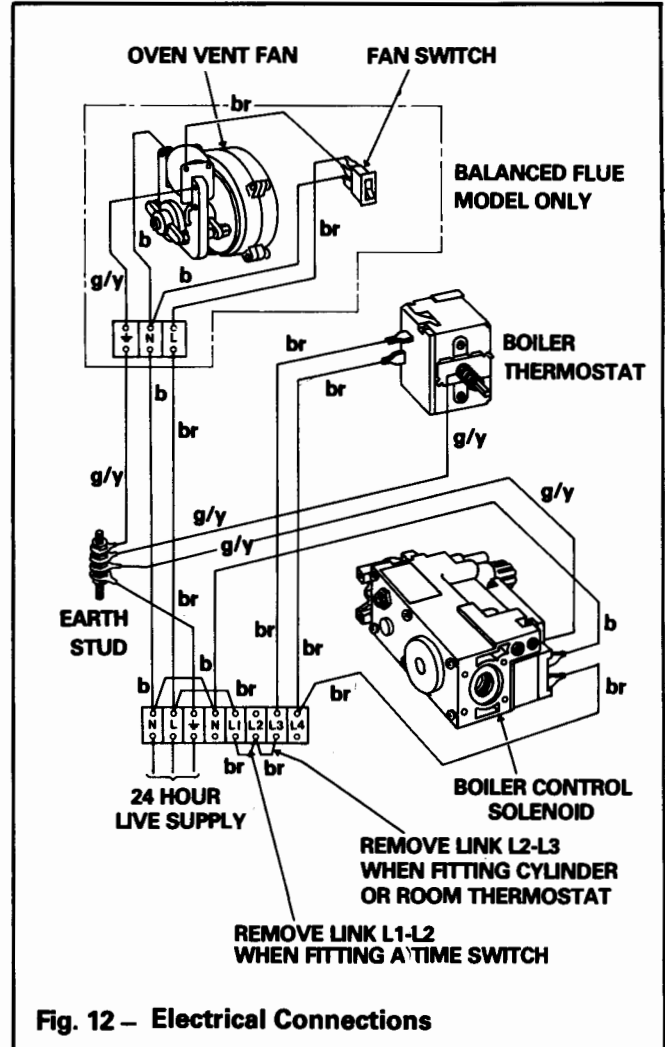

Fig. 12 – Electrical Connections
- e. Disconnect two electrical leads from thermostat body and earth terminal. See Fig. 12 for connections.
- g. Fit replacement thermostat and assemble in reverse order of dismantling. Electrical leads to be reconnected as previously. See Fig. 12 for connections.
- d. Remove two fixing screws securing fan scroll housing to sheet metal mounting bracket and then disconnect fan motor leads **L**, **N**. and $\oplus$ of neon lamps terminal block (noting terminal positions See Wiring Diagram Fig. 12).